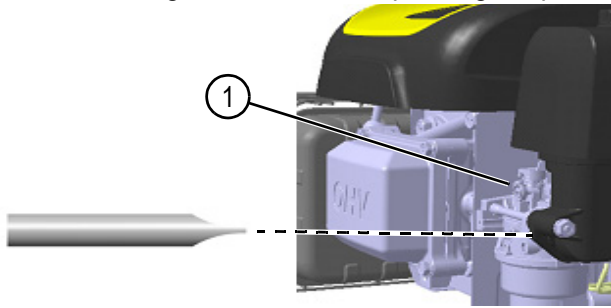

Figure 3-6: Adjust Idle Stop Screw
2. See Figure 3-6. With the engine idling, adjust the throttle stop screw to obtain the recommended engine idle speed of **1850±150 rpm**.